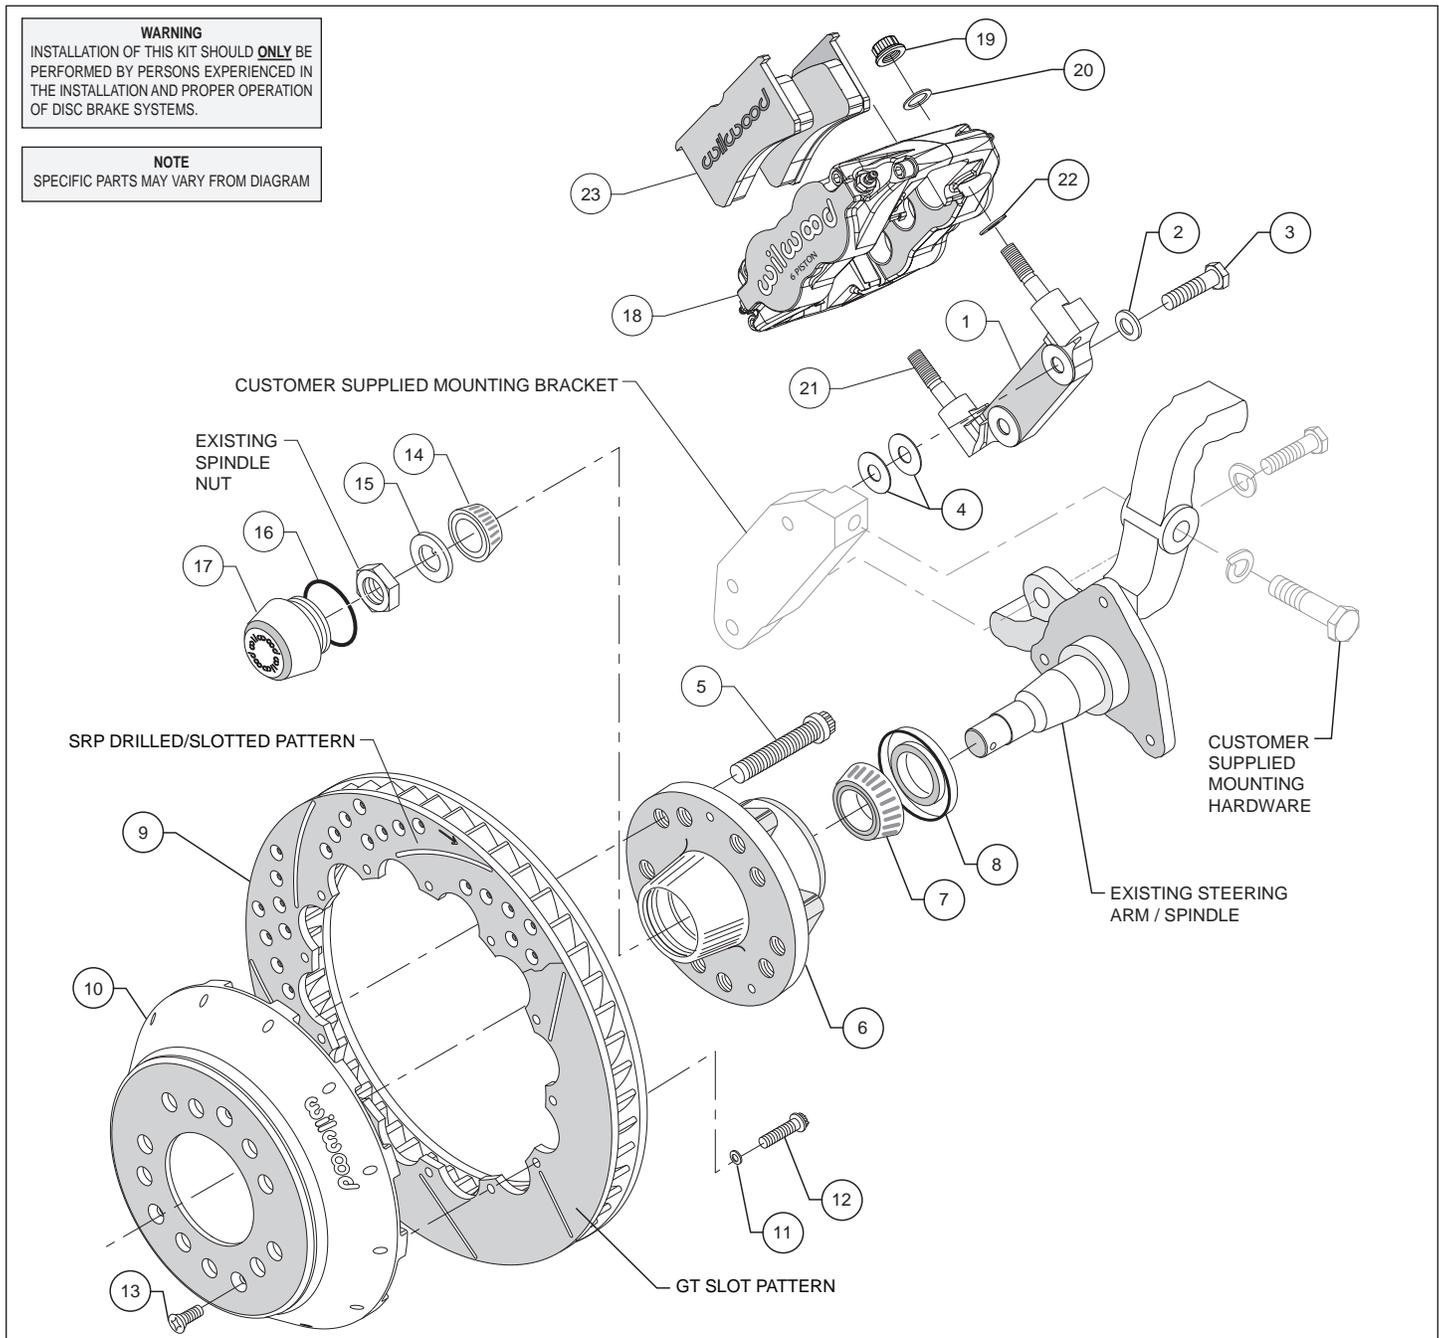
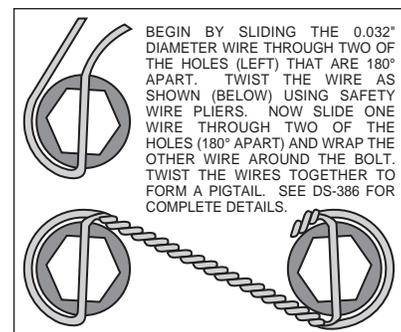

Figure 1. Typical Installation Configuration
Figure 3. Safety Wire Diagram
Assembly Instructions (numbers in parenthesis refer to the parts list and Figure 1 on the preceding pages):
- The caliper mount bracket assembly (1) should initially be installed with clean, dry threads on the mounting bolts. Orient the bracket as shown in Figure 1 and install using bolts (3) and washers (2), Figure 1. Initially place two .063" thick shims (4), on each bolt between the bracket and spindle mounted bracket. Temporarily tighten the mounting bolts. **NOTE: The bracket must fit squarely against the spindle mount bracket.** Inspect for interference from casting irregularities, machining ridges, burrs, etc. Later, after the caliper alignment has been checked, the mount bolts will be secured using *Loctite*[®].
- Install wheel studs (5) into the hub (6). Torque to 77 ft-lb. **NOTE: There are two five lug patterns in the hub (5 x 4.50 and 5 x 4.75).** Ensure the correct hub stud pattern is being used to fit the wheel application.
- Pack the large inner bearing cone (7) with high temperature disc brake bearing grease (available from your local auto parts store) and install into the backside of the hub (6).
- Install the grease seal (8) by pressing into the backside of the hub (6), flush with the end of the hub.
- Pack the small outer bearing cone (14) with high temperature disc brake bearing grease and install into front of hub (6). Slide the hub assembly (5, 6, 7, 8 and 14) onto the spindle. Secure using spindle washer (15), and OEM spindle nut. Adjust bearings per OEM specifications. Install saved OEM nut lock (if any) and a new cotter pin (not included).
- Screw dust cap (17) into hub (6). Friction created by the o-ring (16) on the dust cap keeps it from unscrewing. **NOTE: The O.D. of the existing OEM spindle washer may be larger than the I.D. of the dust cap not allowing it to seat against the hub face. Therefore, use the spindle washer (15) supplied with the kit instead of the OEM washer.**
- Orient the rotor (9) and the hat (10) as shown in Figure 1. Attach rotor to hat using bolts (12) and washers (11). Using an alternating sequence, apply red *Loctite*[®] 271 to the threads and torque bolts to 155 **in-lb**. For an added measure of security, the bolts may be safety wired using standard 0.032 inch diameter stainless steel safety wire as shown in Figure 3. Please refer to Wilwood's data sheet DS-386 (available at www.wilwood.com/Pdf/DataSheets/ds386.pdf) for complete safety wire installation instructions.
- Slide the rotor/hat assembly (9/10) over the studs (5) in the hub (6) taking care to align the small countersunk holes in the hat (10) with the small threaded holes in the hub. Install three flat head socket head screws (13) through the small holes in the hat and torque to 85 **in-lb**.
•**NOTE:** This kit contains distinct right and left hand calipers that must be mounted in a specific direction, as described below. Lubricate the caliper mounting studs (21) with lightweight oil. Initially place two .035" thick shims (22) on each stud as shown in Figure 1. Mount the caliper (18) onto the bracket (1) using lock nuts (19) and washers (20), Figure 1. Ensure that the caliper is mounted so that the largest pistons are at the rotor exit end of the caliper, in relation to the direction of rotor rotation. Temporarily tighten the lock nuts and view the rotor through the top opening of the caliper. The rotor should be centered in the caliper. If not, adjust by adding or subtracting shims (4) between the two brackets. Always use the same amount of shims on each of the two mounting bolts. Once the caliper alignment is correct, remove the bracket mounting bolts one at a time, apply red *Loctite*[®] 271 to the threads, and torque to 47 ft-lb.